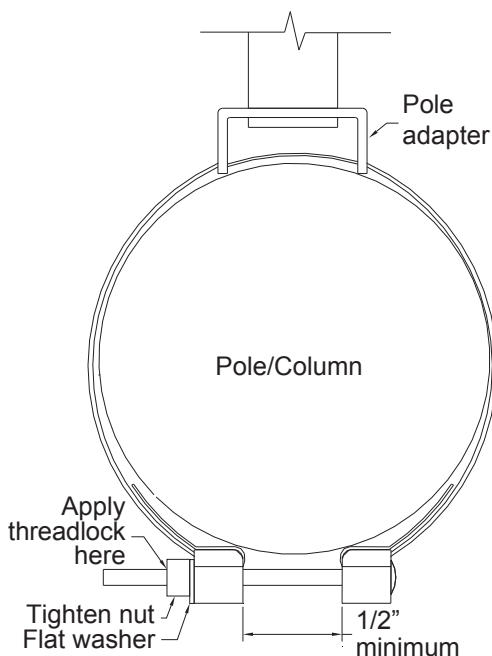

Figure 5
Step 7: Tighten the carriage bolt assembly until all slack has been removed from the fully loaded assembly. Retainer blocks must have a minimum of 1/2" gap after fully tighten. Do not over tighten (Figure 5).